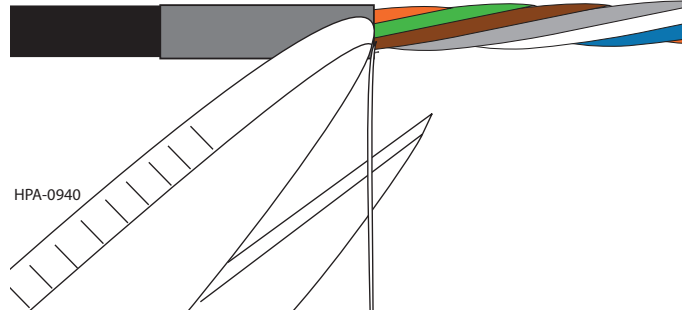

Figure 7
Step 11: Unravel the yarns down to the tape wrap and snip off the yarns (use care when cutting close to the buffer tubes due to the small buffer tube size) (Figure 7).